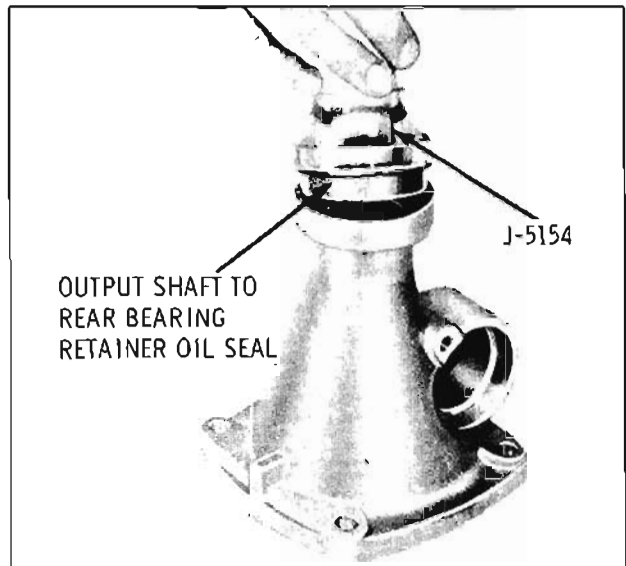

Fig. 6-452B Installing Oil Seal
4. Install output shaft to rear bearing retainer oil seal using Installer J-21426. (Fig. 6-452B)